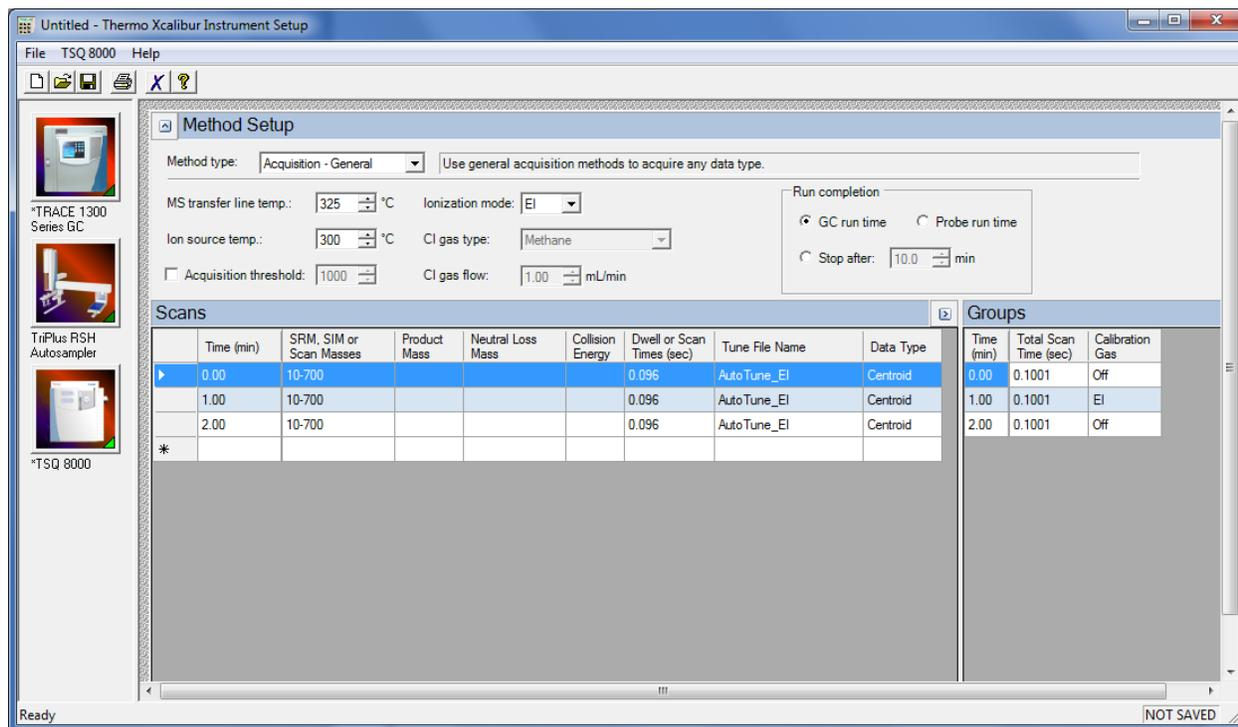

Figure 7. Finished MS method for external calibration
Step 2 - The MS Method: This is almost identical to the previous (internal) calibration style, but simpler. Instead of trying to coordinate the calibration gas On/Off time with the oven cool down cycle, we just wait for a short period of time (e.g., 1 min in Figure 7) to let everything settle and then turn on the calibration gas for 1 min before turning it off.